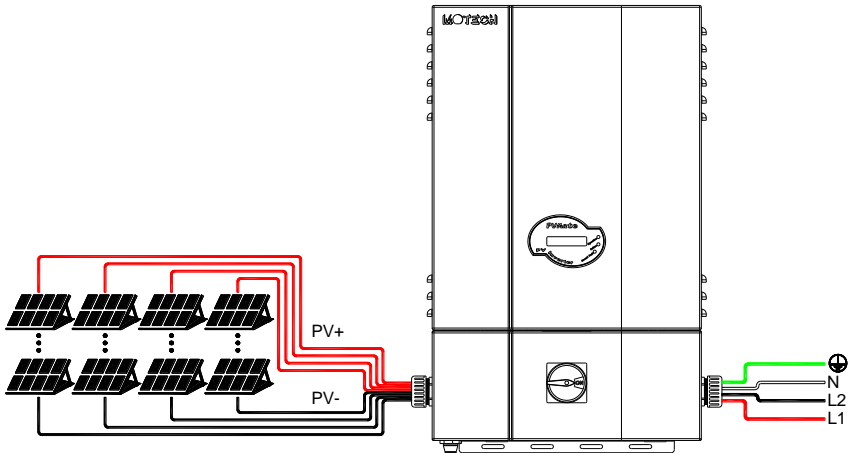

Fig 2.3.2.2 PV- terminal connection
Up to four (4) independent PV strings (4 pairs) can be connected to the PVMate inverter as shown in the figure 2.3.2.2. The PV strings will be connected in parallel in the wiring box.